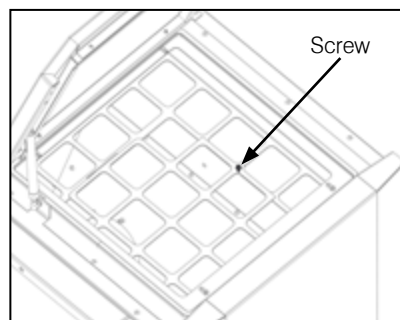

Figure 10-6: Grille fixing screw
2. Remove the centre section of the grille inside the side pellet store. Undo the single fixing screw and lift the centre section away from the surrounding part of the grille. Refer to Figure 10-6.
- Re-fit the centre section of the grille inside the side pellet store and secure with the single fixing screw previously removed. Refer to Figure 10-6.